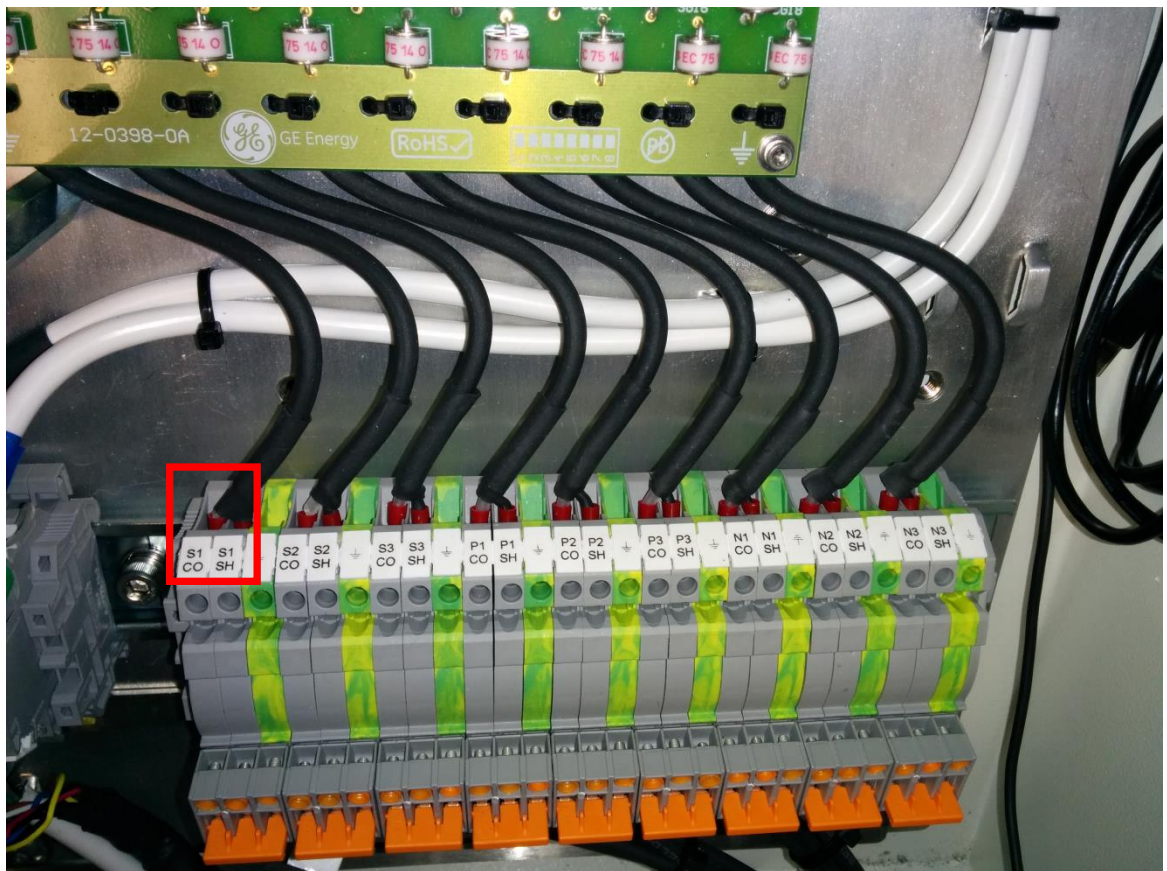

Figure 5-29: PCB phase inputs - Secondary (left), Primary (middle) & Neutral CT (right)
The interconnecting coaxial cables between the grounding switches and the main board are installed in the factory as shown in Figure 5-29. The order of the board inputs is from left to right as follows:
For each input the coaxial central wire is connected to the core (CO) on the left and the shield (SH) on the right as shown in Figure 5-29.